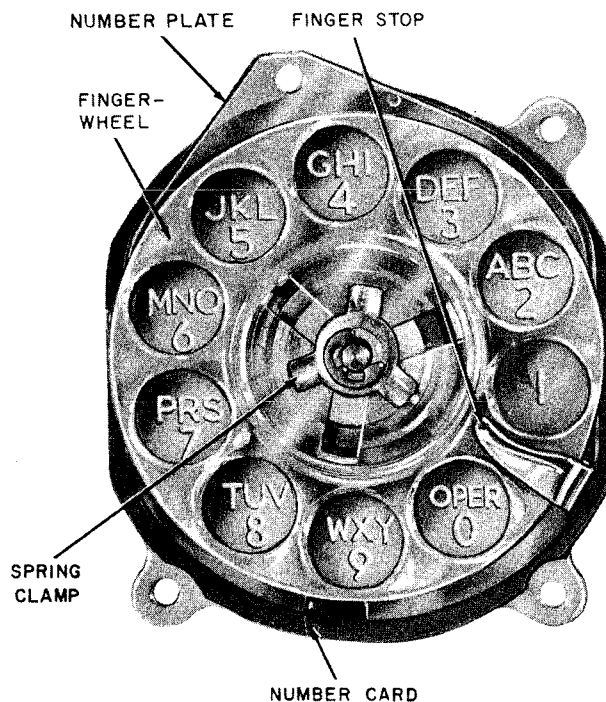

Fig. 1—10A Dial, Front View
**2.01** The 10-type dial (Fig. 1 and 2) has a plastic 2-3/8 inch diameter fingerwheel having finger holes on a 10-1/3 division spacing instead of the standard 12 division spacing of the 5- through 9-type dials.